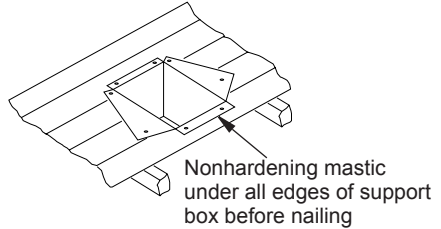

Figure 23 - Installed Cathedral Ceiling Support Box
4. Using tin snips, cut support box from top corners down to roofline and fold resulting flaps over roof sheathing (see Figure 23). Apply a bead of nonhardening mastic around top edges of support box to make a seal between box and roof. Nail in place with roofing nails. Remove any combustible material that might be inside of support box.